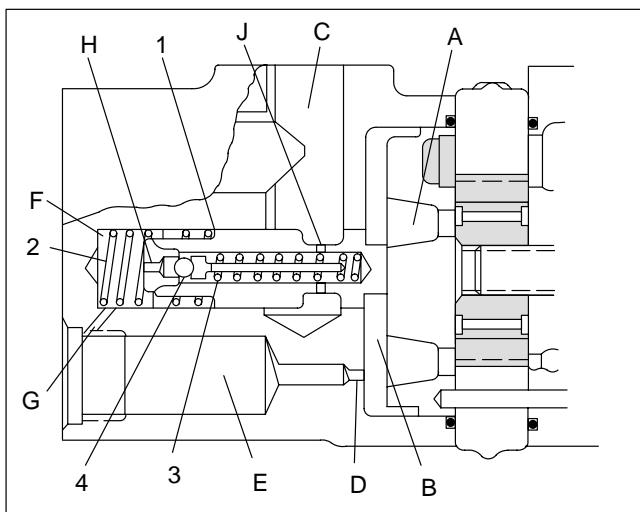

Figure 3.
1. Maximum fluid delivery and maximum system pressure are determined by the integral flow control and relief valve (Figure 3). The rate of flow depends on the sizes of the restriction (D) in the cover. Excess oil is ported past the sliding spool (1) to the return circuit by way of passage C.